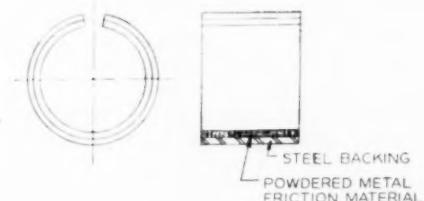

FIG. 14 STEEL-BACKED BUSHING
*Steel-Backed Bushings.* These bushings, Fig. 14, can be made for either friction or bearing applications. They are preferred over regular solid powder bearings in cases where special frictional properties are required, or where structural strength requirements necessitate the steel backing. These pieces are molded and sintered in flat sections and then surface-ground and bent to curvature. They are generally left open-ended, since it is impractical to weld the ends closed. Materials are available which can be used on the following types of steel-backed bushings: lubricated bearing applications, unlubricated bearing applications, and wet or dry-friction applications.